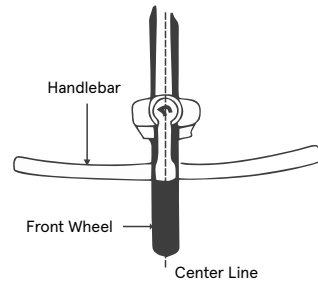

Fig. 13
2. Align the handlebar stem with the front wheel (See Fig. 13). Securely tighten the stem bolt(s). Note: Some models require a 6mm hex key. (Tightening torque: 18N.m or 14foot lbs.torque).
4. Be sure that your handlebar and stem assembly is properly tightened before riding. The handlebar and stem should not rotate in the stem up or down or in the fork from left or right. (Fig. 13)